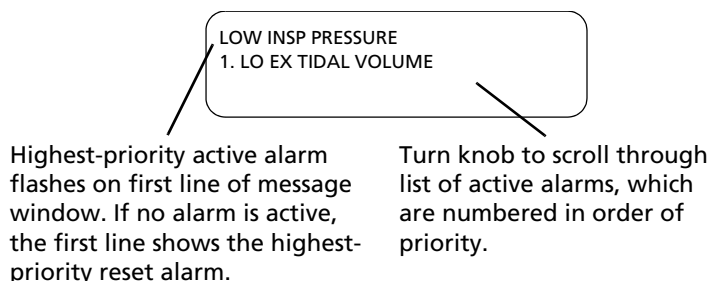

Figure 6-2. Using the *Autoreset alarms* menu function to view autoreset alarms
2. Turn the knob to scroll through the list of autoreset alarms, which are listed in order of priority (see Figure 6-2). Each autoreset alarm is listed only once, even if the alarm was autoreset several times.